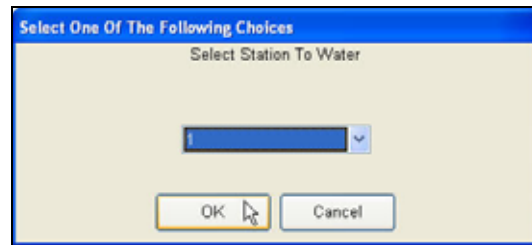

Figure 7.2.6
5. Select a Station number to water. Click **OK** (Figure 7.2.6).